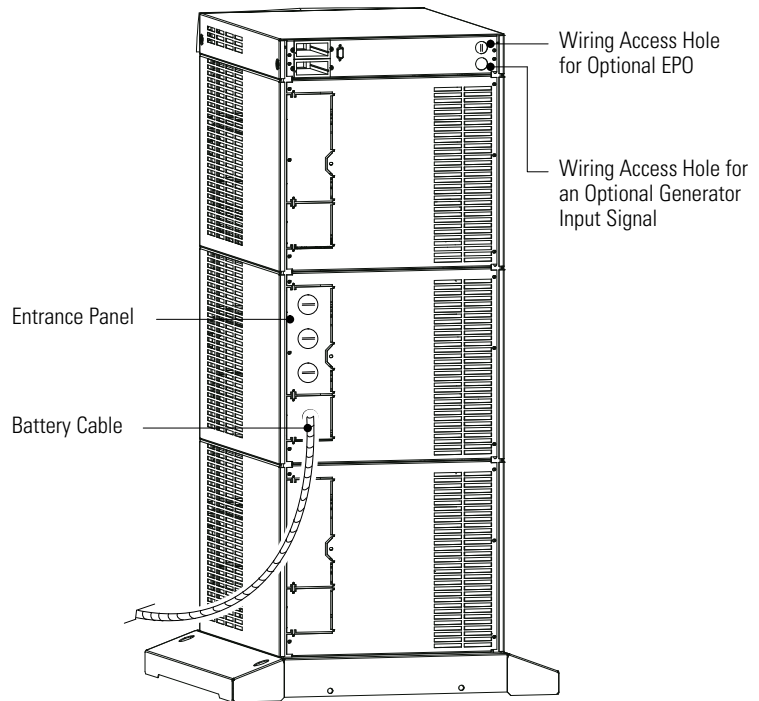

Figure 26. UPS Power Entrance Panel (Nine-Slot Cabinet Shown)
1. Unscrew and remove the rear cover(s) of the UPS (top cover on 3- or 6-slot; top two covers on 9- or 12-slot). See Figure 26.
The entrance panel contains knockout openings for entrance and exit conduits and for conduit to an optional external battery cabinet. The entrance panel is located on the top 3-slot section for 3- and 6-slot cabinets; on the second section for 9- and 12-slot cabinets as shown in Figure 26.